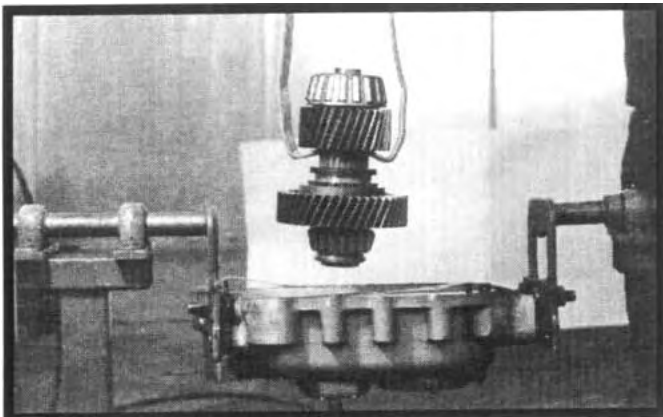

Figure 4.11
16. Lift the intermediate shaft subassembly from the case. See Figure 4.11.